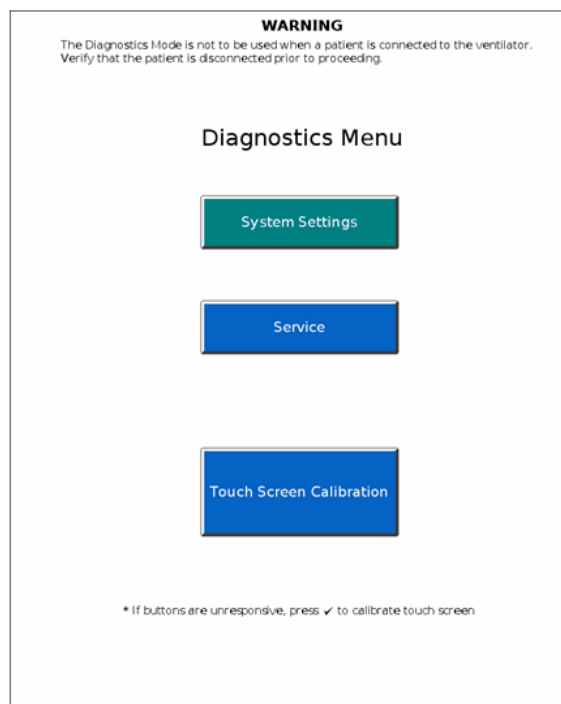

Figure F-1: Diagnostics Menu
3. Within less than 5 seconds, release and press the Accept button again. The **Diagnostics Menu** (Figure F-1) is displayed.